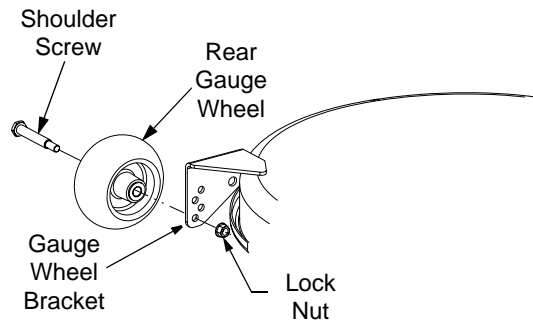

Figure 30
- Remove the lock nut securing one of the gauge wheel shoulder screws to the deck. Remove the gauge wheel and shoulder screw. See Figure 30.